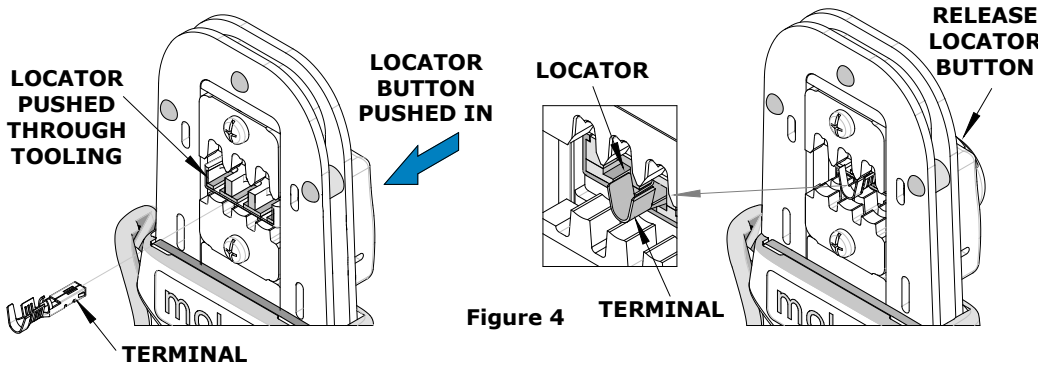

Figure 4
3. While holding the locator button in, load the terminal into the proper nest opening in the locator based on the wire insulation diameter markings on the crimp jaws. See Figure 4.